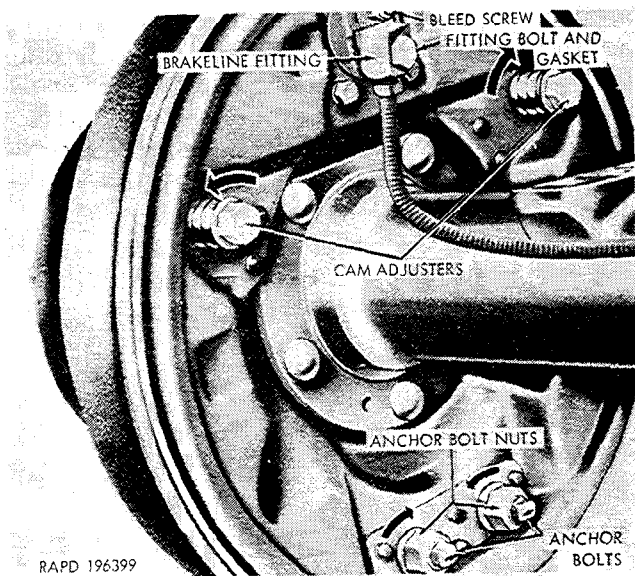

Figure 2-138. Brakeshoe cam adjusters and anchor bolts.
(1) Remove the bolt and gasket that secure the brake cylinder inlet connection to the wheel cylinder, and remove the flexible line and attached connector from the wheel cylinder (fig. 2-138).